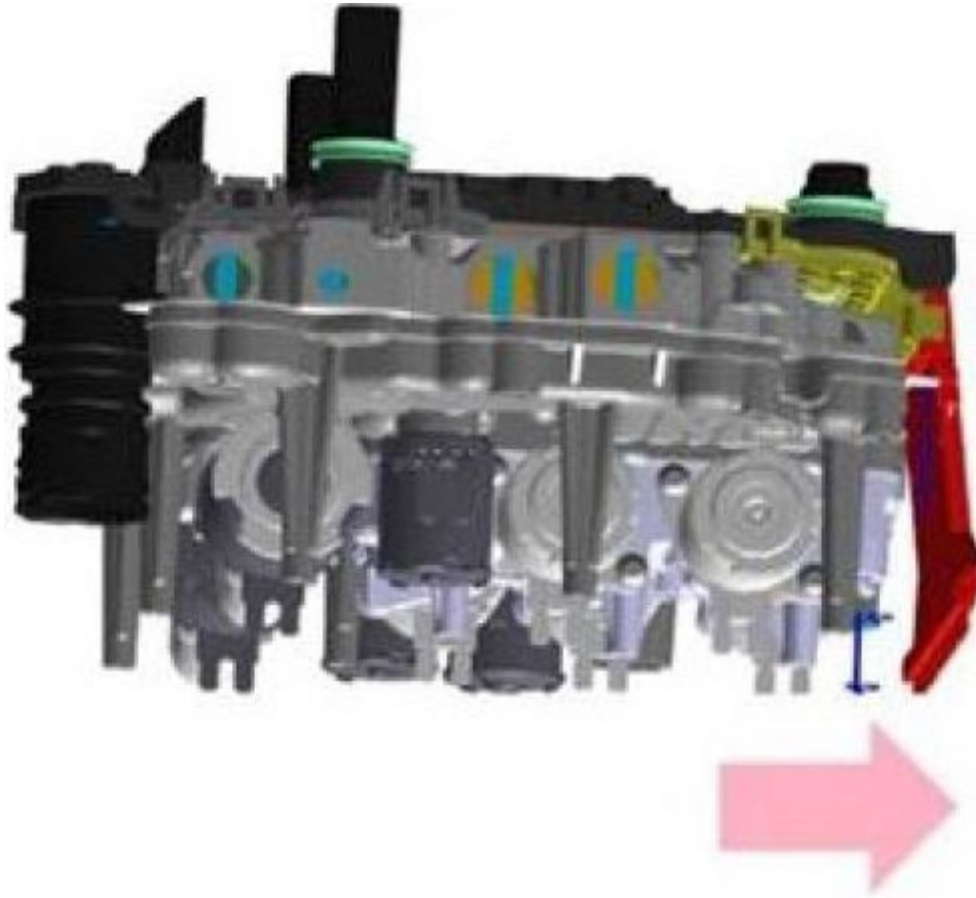

Figure 15. *Connecting tab between the contact plate and the control unit.*
19. Move the connecting tab between the contact plate and the control unit in the direction of the arrow (less than 10°) (Figure 15, red arrow). When it is in place, the connecting tab engages in the correct position with an audible click.